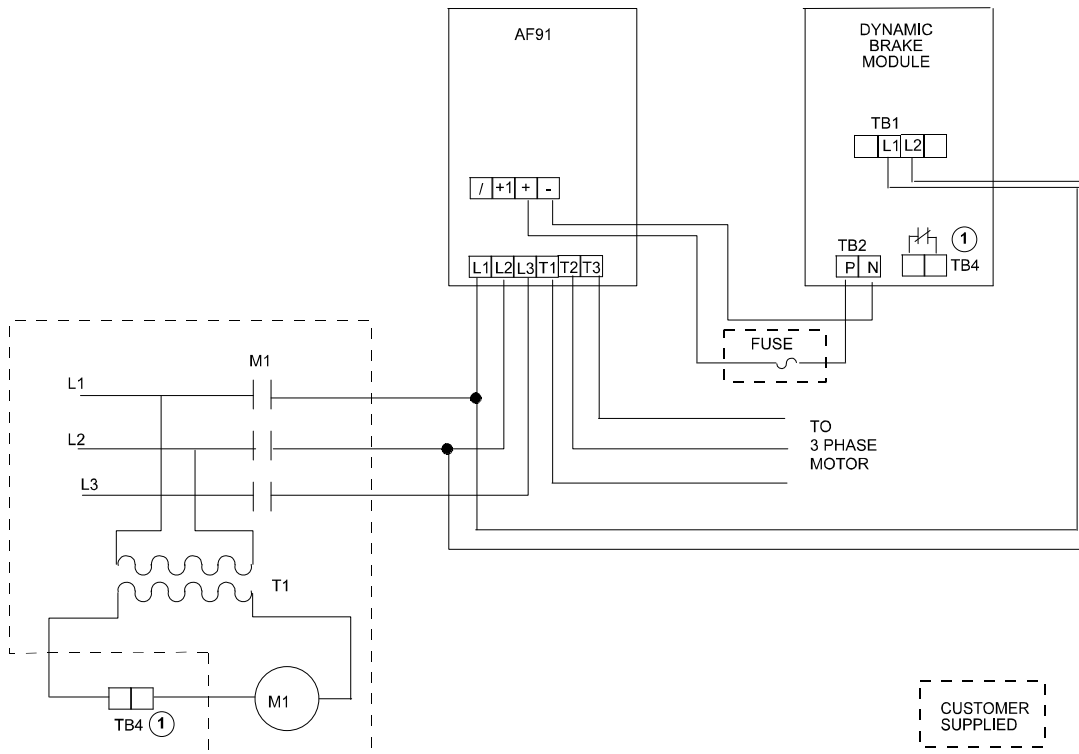

Figure 1: Wiring Diagram
- Always connect a contactor on the line side of the AF91 that is supplying power to the dynamic brake unit and wire TB4 in the unit (thermostat trip) in series with the coil of the contactor. See Figure 1 for the recommended wiring.